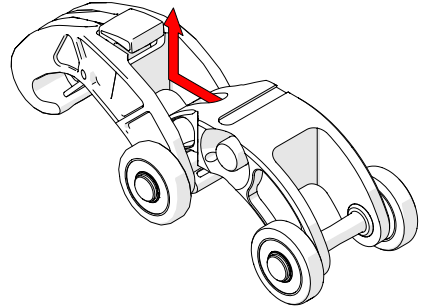

Fig. 73 - Slide Dovetail QuickLink forward and lift
2. While pressing the red button, slide the Dovetail QuickLink forward and up, clearing the hook of the Dovetail QuickLink from the 2nd QuickLink's axle (*Fig. 73*).